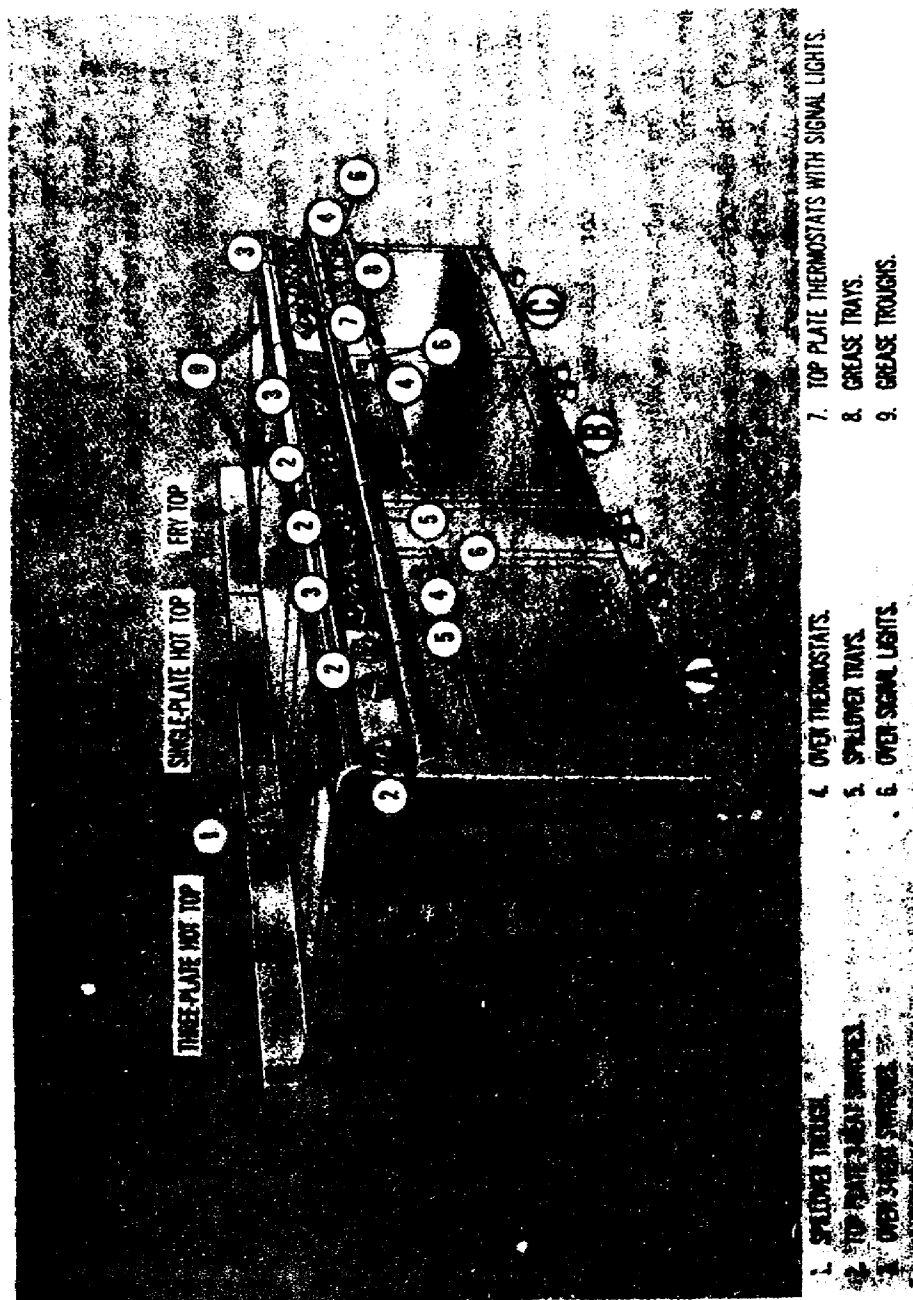

Figure 9. Electric range, hot and fry tops.
(4) Weekly services. Each week, or more frequently if necessary, the top plates of the range should be lifted out and any soot accumulated on the under-surfaces should be removed. The underside should be brushed with a wire brush. The burners should be removed and the ports cleaned out with a wire brush. The burners should not be dipped or submerged; water rusts their interior surfaces and restricts gas flow.
(5) Monthly services. The operator lubricates the oven door hinges with light lubricating oil monthly.
11. HEAVY-DUTY ELECTRIC RANGE. This range (fig. 9) is a single unit consisting of a top section for surface cooking and an oven. It may be a hot-top or fry-top range equipped with three separate, individually controlled heating units. These are electrical-resistor, inclosed tubular heating units embedded in the underside of the grill (rather than exposed on the range top). Grease troughs are provided at both the front and back of the range top. These troughs empty into a removable grease pan located below the top control panel. The oven has a bottom-hinged door, an adjustable, removable shelf, and a vent damper controlled by a lever near the vent cover. The oven controls are located on the lower control panel, and the fuse compartment is immediately below this panel. Two three-heat switches control the upper and lower oven burners, and the oven thermostat controls oven temperature. The oven is also equipped with a signal light that indicates when the oven is heating and when it has reached the desired temperature. Each of the top units is controlled by a three-heat switch or an adjustable thermostat, and each may be turned on independently. A signal light for each burner comes on when current is flowing to that unit and goes out when the preset temperature is reached.